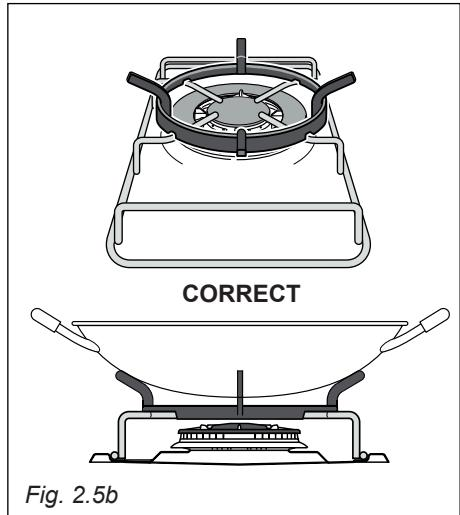

Fig. 2.5b
- The special grille for wok pans (fig. 2.5b - 2.6b) **MUST BE PLACED ONLY** over the panrest for the double-ring burner.